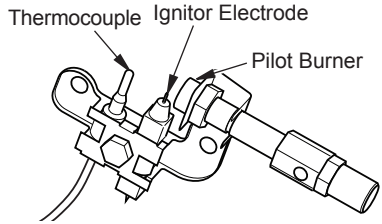

Figure 18 - Pilot
4. Wait five (5) minutes to clear out any air. Then smell for gas, including near the floor. If you smell gas, STOP! Follow "B" in the safety information, page 16. If you do not smell gas, go to the next step.
5. Turn control knob counterclockwise to the PILOT position. Press in control knob for five (5) seconds (see Figure 18). *Note: The first time that the heater is operated after connecting the gas supply, the control knob should be pressed for about thirty (30) seconds. This will allow air to bleed from the gas system. If pilot does not stay lit, refer to Troubleshooting, pages 21 through 23. Also contact a qualified service technician or gas supplier for repairs. Until repairs are made, light pilot with match.*